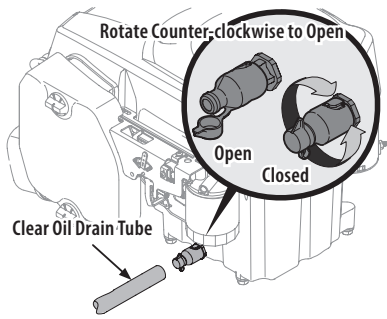

Figure 29
4. Open the protective cap on the end of the oil drain valve to expose the drain port (Figure 29).